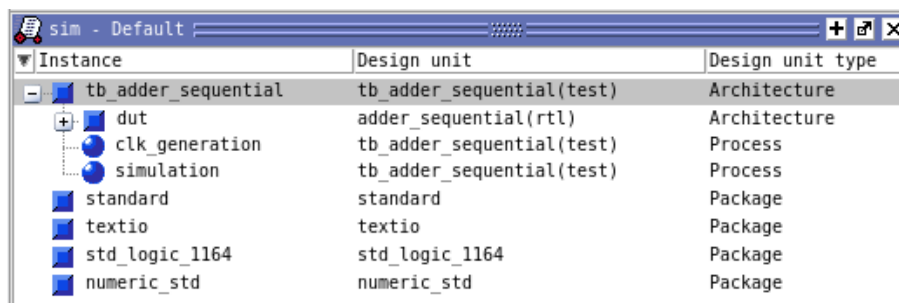

Figure 17: Simulation tab
4. In the sim tab, click on tb_adder_sequential (Figure 17).